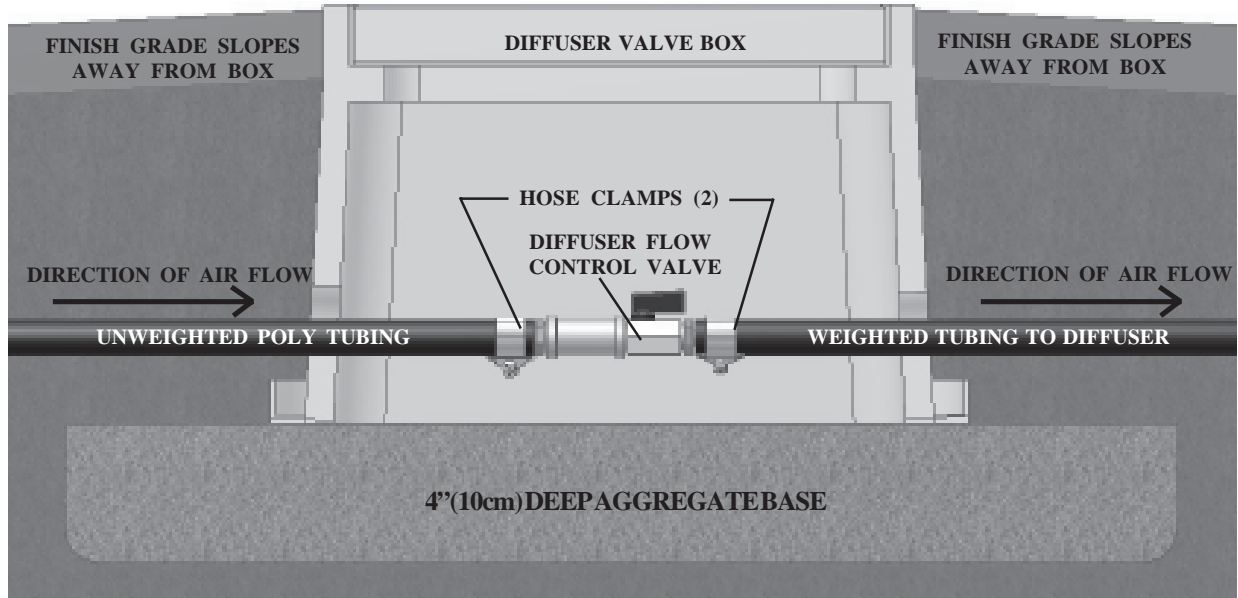

Figure 9a: Valve Box Installation
2. Excavation: The size of the hole you excavate will depend upon the size of valve box you have. Excavate at least 4”(10cm) deeper than the depth of the box to allow room for an aggregate base providing drainage and allow 4”(10cm) to 6”(15cm) extra for the length and width. (See **Figure 9a**). Before placing the box fill the bottom of the hole with at least 4”(10cm) of gravel or stone and enough to keep the top rim flush with the ground surface. When backfilling lightly tamp the soil around the box as you fill in the hole and keep the finished grade sloping away from the top of the valve box entry.
4. Connect Hose To Valve(s): Upon returning to shore, connect the tubing from each diffuser assembly to the outlet connection(s) of the appropriate valve assembly and secure with the hose clamps provided (**See Figures 9a & 9b**). The portion of tubing between the edge of the water and the valve box may be direct buried or run through PVC pipe in the ground. **The tubing must enter the water below the average winter ice depth in the area!** Proceed to System Start-Up Section.